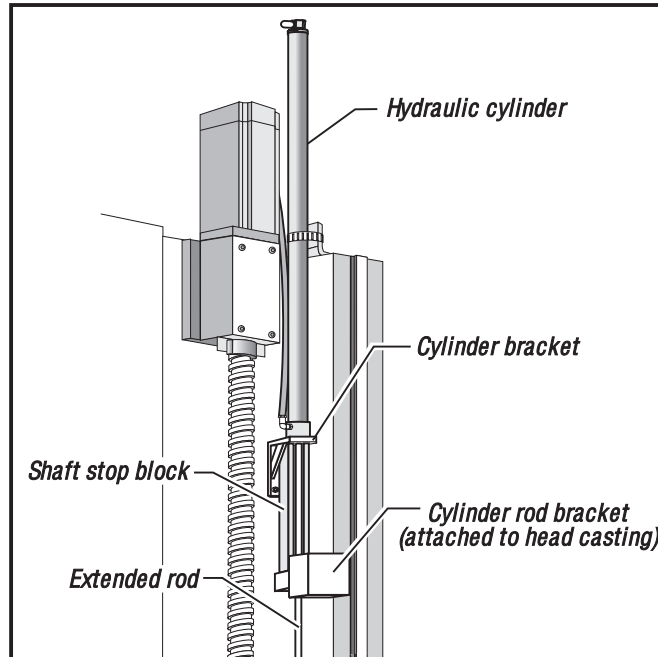

Figure 9-6. Z-axis motor and components for machines equipped with hydraulic counterbalance.
5. If the machine is equipped with a hydraulic counterbalance, install cylinder shaft stop (See Fig. 9-6). HANDLE JOG Z-axis up until shaft stop blocks axis.